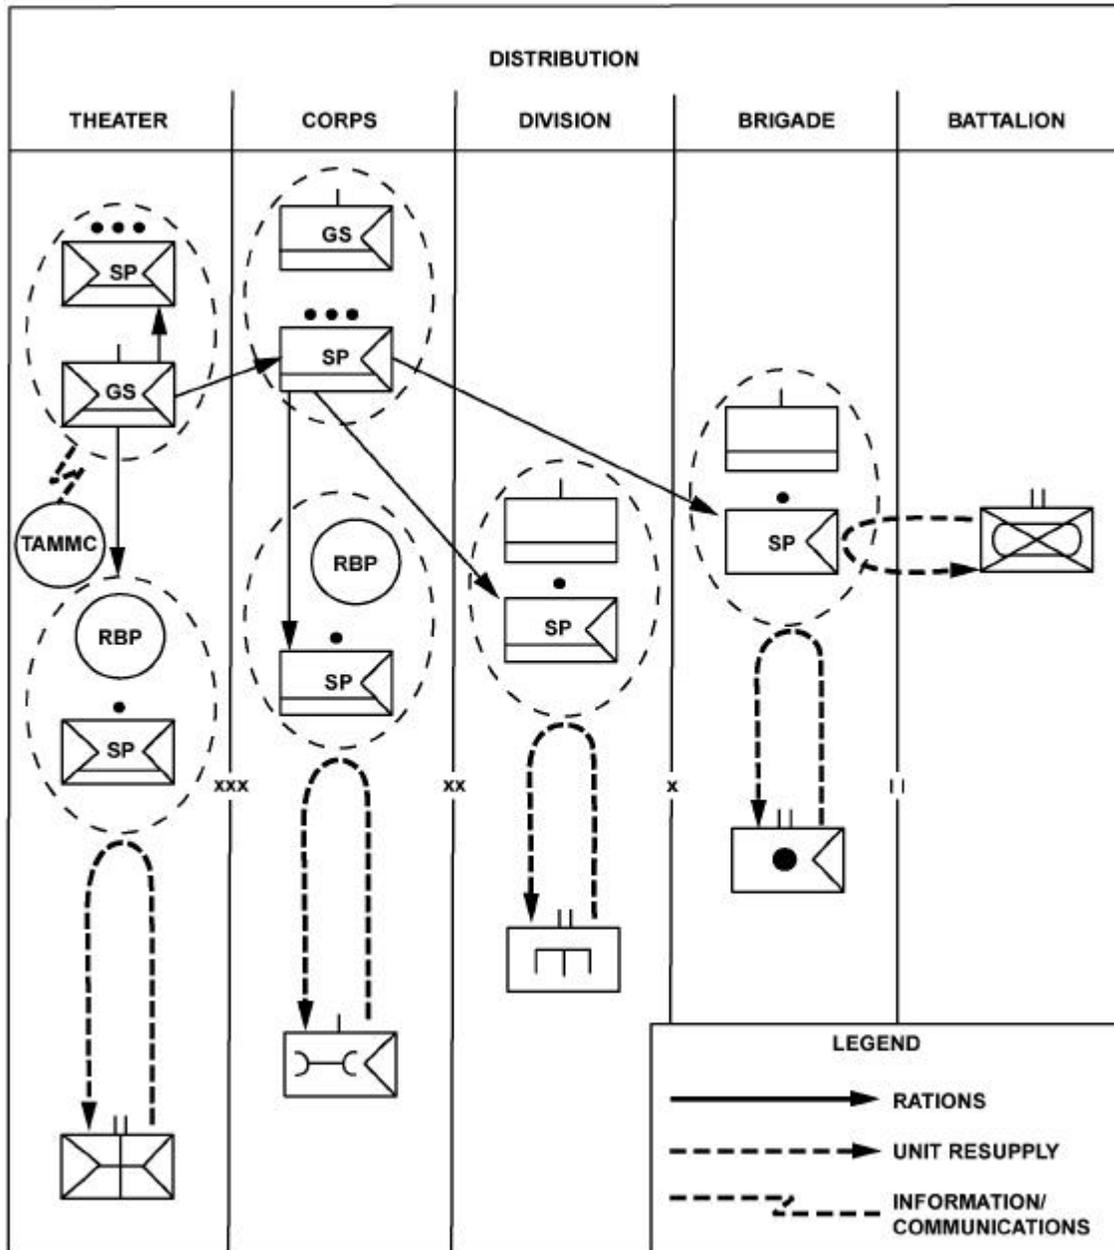

Figure 1-1. Flow of Rations in the Theater of Operations.
Subsistence supply support after D+60 is normally an Army mission (see fig. 1-1). The U.S. Army's theater subsistence supply procedures are addressed in Field Manual (FM) 10-23, *Basic Doctrine for Army Field Feeding and Class I Operations Management*. At the Marine Corps forces/Marine expeditionary forces (MARFOR/MEF) level, force commanders are responsible for determining operational feeding policy. A feeding concept is established early in planning to reduce potential problems during operations. The